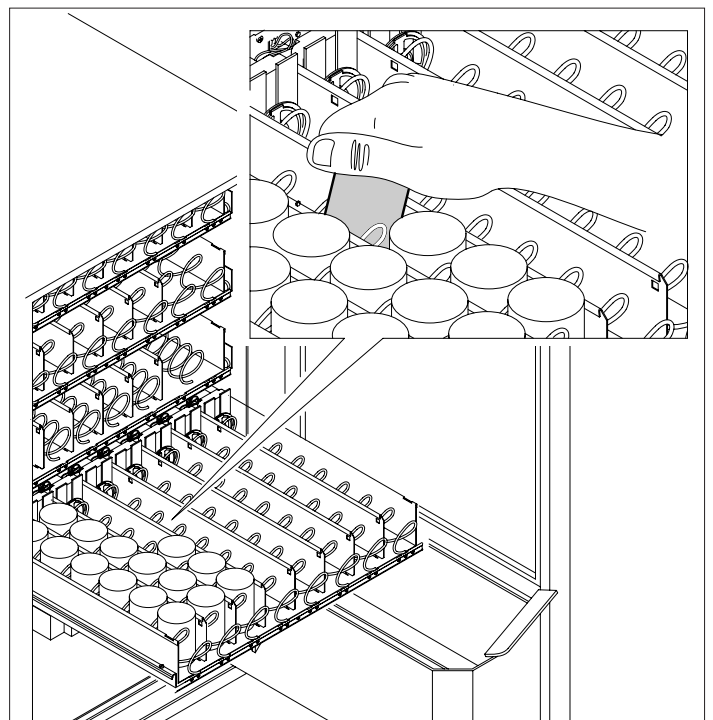

Fig. 6.9
- insert the products starting from the front of the drawer to the innermost part. Do not leave any space empty (Fig.6.9)